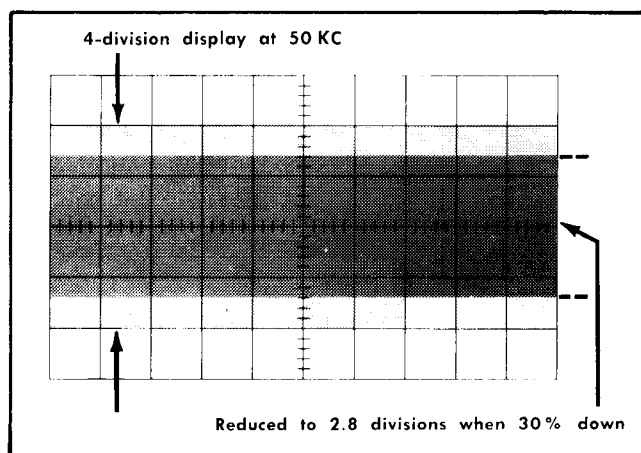

Fig. 6-29. Typical crt display when checking vertical frequency response.
d. Without changing the output amplitude, increase the output frequency until the display is reduced to 2.8 divisions (see Fig. 6-29).
i. Without changing the output amplitude, increase the output frequency until the deflection is reduced to 2.8 divisions (see Fig. 6-29).
n. Without changing the output amplitude, increase the output frequency until the deflection is reduced to 2.8 divisions (see Fig. 6-29).
s. Without changing the output amplitude, increase the output frequency until the deflection is reduced to 2.8 divisions (see Fig. 6-29).
x. Without changing the output amplitude, increase the output frequency until the deflection is reduced to 2.8 divisions (see Fig. 6-29).
ac. Without changing the output amplitude, increase the output frequency until the deflection is reduced to 2.8 divisions (see Fig. 6-29).
e. Without changing the output amplitude, increase the output frequency until the deflection is reduced to 2.8 divisions (see Fig. 6-29).
- e. Without changing the output amplitude, increase the output frequency until the deflection is reduced to 2.8 divisions (see Fig. 6-29).
- j. Without changing the output amplitude, increase the output frequency until the deflection is reduced to 2.8 divisions (see Fig. 6-29).